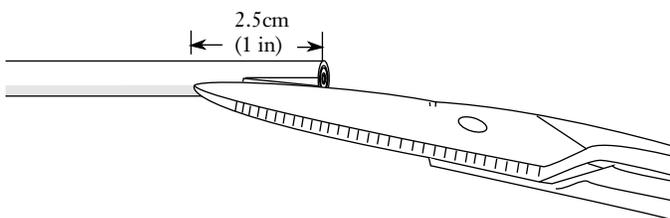

Figure 3
4.2 Starting at the end of the cable sheath, use scissors to slit the sheath about 2.5 cm (1 in.) (Figure 3).